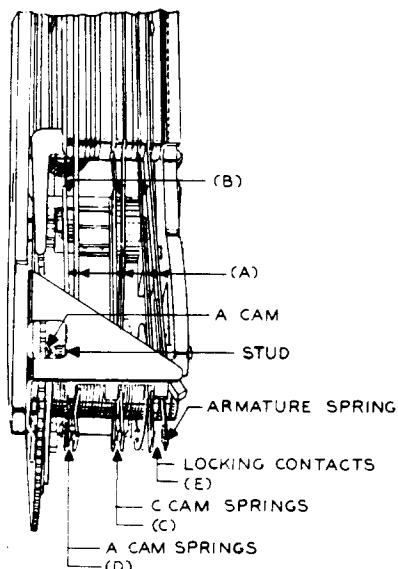

Fig. 19 - Timer - Top View
2.27 Straightness of Springs: Fig. 19(A) -
2.28 Separation Between Springs: Fig. 19(B) -
2.30 Timing Requirements: With the motor operating the driving shaft and the armature operated, the timing interval, as measured from the break of the "A" cam contacts [Fig. 19(D)] until the reclosure of the "C" cam contacts [Fig. 19(C)] shall be